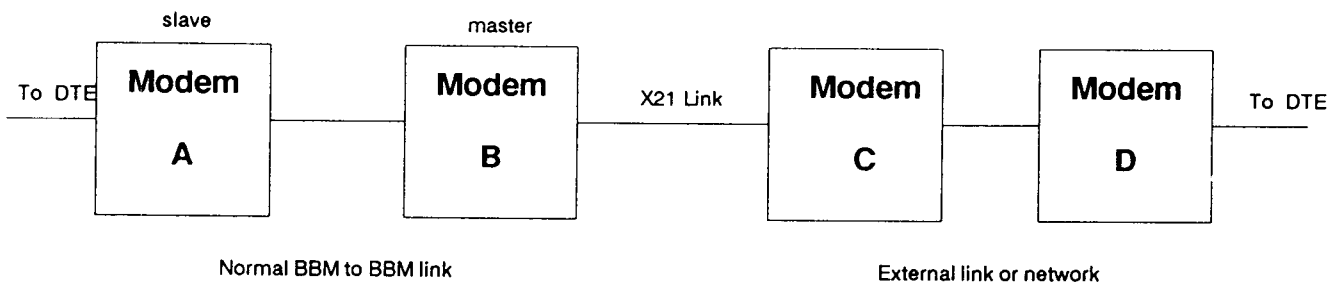

Figure 5.7.3
The concept is shown in figure 5.7.3
Normally in a point to point link, the master BBM becomes the source of timing and the slave BBM locks to this. If a further link is driven as shown in figure 5.7.3, then the external BBM (C) must supply a source of timing to the master BBM (B). This timing can be of two forms Bit Timing, or Byte Timing.